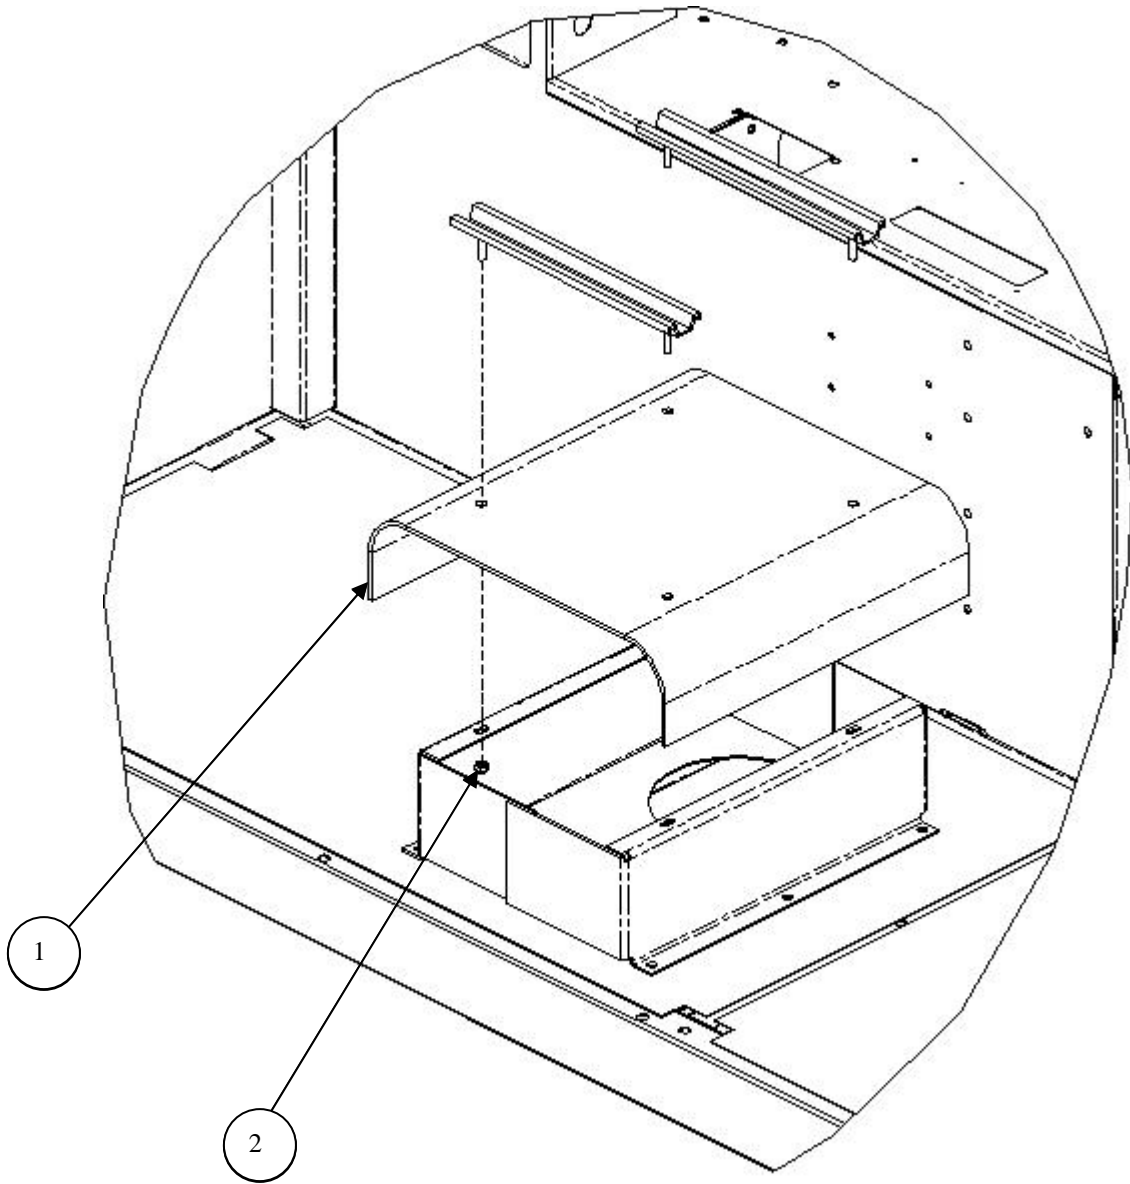

Figure 3-88. Seat Armor Panel Installation.
1. Install seat armor panel as follows (see Figure 3-88):
- a. Install seat armor panel (1) onto the driver's-side seat support bracket.
- c. Align holes in seat armor panel (1), driver's side seat support bracket, and driver's seat assembly and secure all three with original four bolts and washers (retained from Teardown, Chapter 2) and new locknuts (2). Torque locknuts to 20 lb-ft.